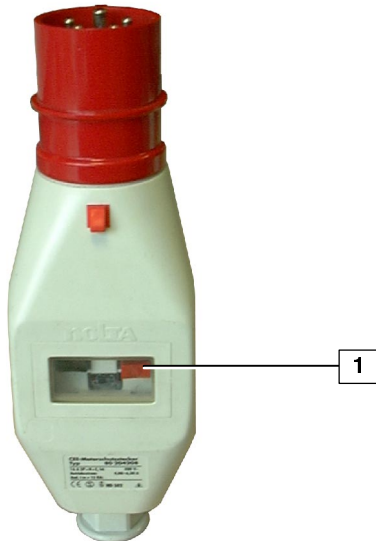

Fig. 12 Motor protection switch (three-phase motor)
- **Three-phase current:** the motor is switched off either manually by pressing the stop button (1, Fig. 12).